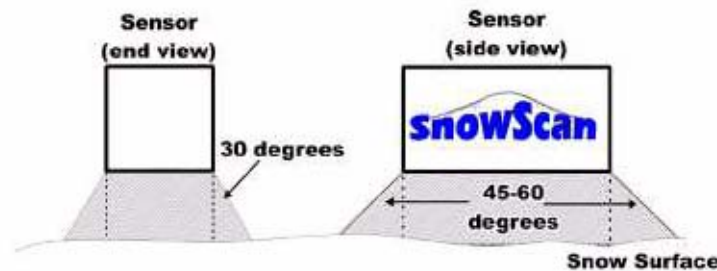

Figure: 2-1 Keep shaded area clear of obstructions
3. There should be a clear path below the sensor as described in Figure 2-1.